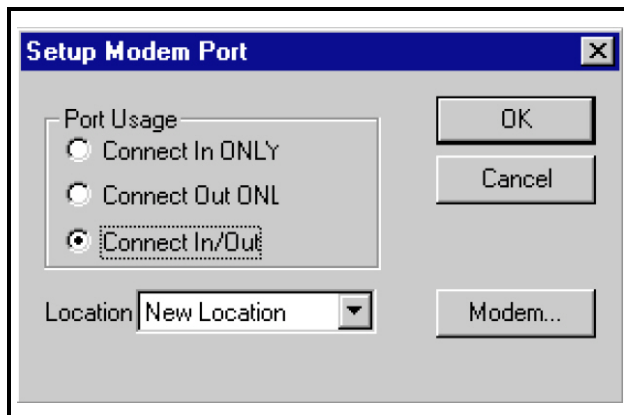

Figure 2-5 - Setup Modem Port Box
4. In the Select Modem Port dialog box (*Figure 2-5*), click the button marked Connect In/Out.